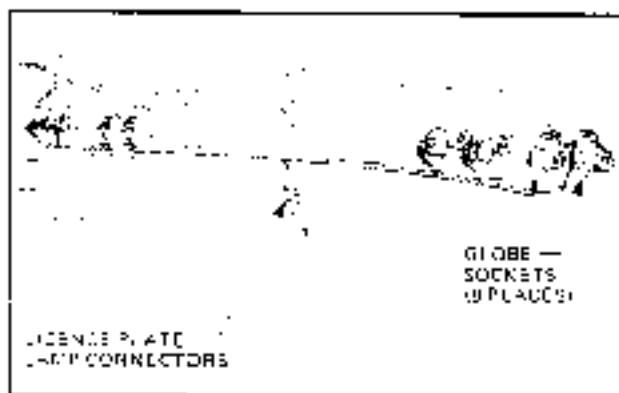

Figure 12B-8
5. Remove screw holding lamp socket to bumper bar (refer Fig. 12B-9) and remove socket.